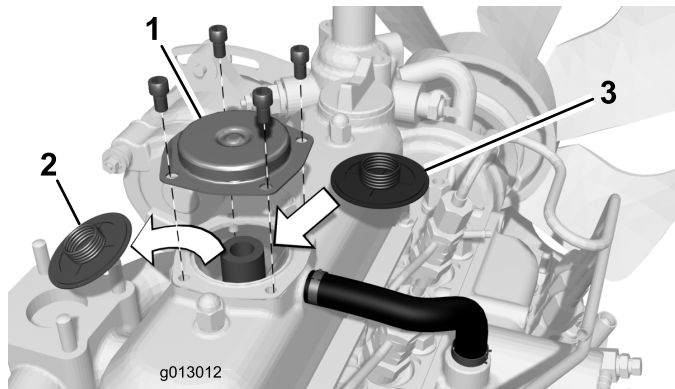
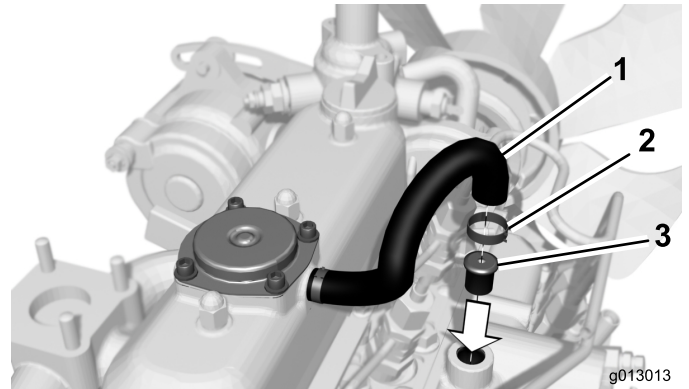

Figure 1
Figure 2
3. Clean any debris from and around the breather cover on the valve cover (Figure 1).
4. Remove the (4) screws securing the breather cover to the valve cover (Figure 1). Remove the breather cover.
Important: To prevent contamination from entering the engine, remove any debris from the existing breather valve before removing it from the opening in the valve cover (Figure 1).
5. Remove the existing breather valve from the opening in the valve cover (Figure 1).
6. Install the new breather valve, reinstall the breather cover and secure with the (4) screws previously removed.
7. Remove any debris from and around the area where the breather tube is connected to the breather pipe (Figure 2).
8. Remove the hose clamp securing the breather tube to the breather pipe in the intake manifold (Figure 2). Slide the tube off the pipe.
9. Insert the new intake orifice into the end of the breather pipe (Figure 2).